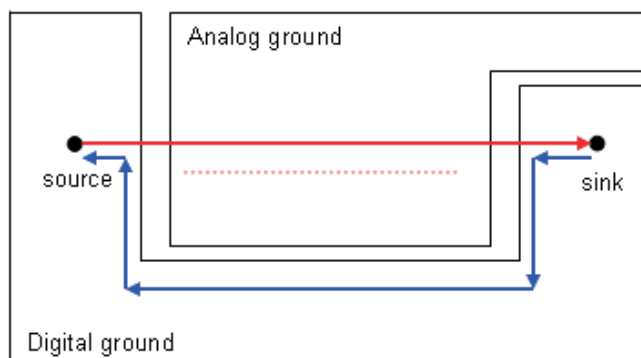

Figure 7. Loop Area and Crosstalk Due to Poor Signal Routing and Ground Splitting
- A routed trace over a gap creates large loop areas, because the return current cannot flow beside the signal, and the signal can induce noise into the nonrelated reference plane (Figure 7).
Figure 7: Do not route a signal referenced to digital ground over analog ground and vice versa. The return current cannot take the direct way along the signal trace and so a loop area occurs. Furthermore, the signal induces noise, due to crosstalk (dotted red line) into the analog ground plane.